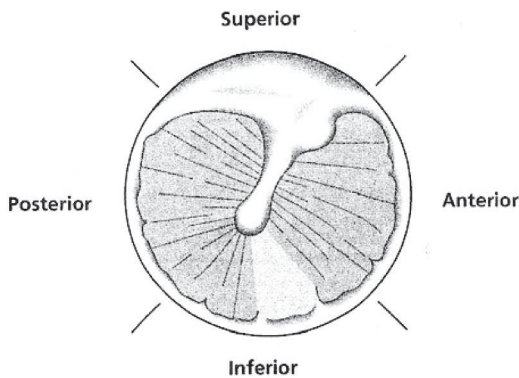

Figure 5-5. A healthy right eardrum. Note the "cone of light" in the 5 o'clock position. (From Taylor & Mueller, 2011, p. 50)
6. Look into the magnifying lens and through the speculum. You should be able to visualize the external canal and tympanic membrane, and the cone of light, as well as any cerumen or other obstacles. (See Figure 5-5 for the landmarks of the tympanic membrane.)